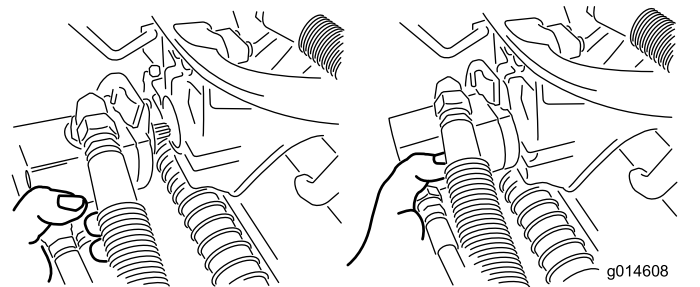

Figure 51
3. Move the motor to the storage location on the front of the suspension arm (Figure 51).